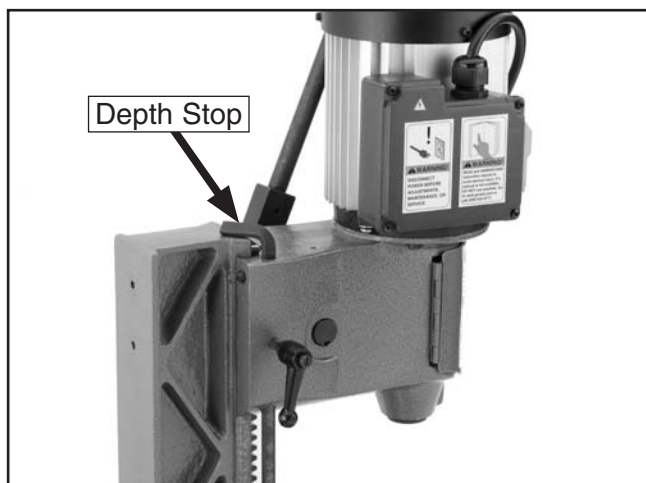

Figure 10. Depth stop contacting headstock.
3. Lift the headstock to the top position using the hand lever. Position the depth stop so it contacts the top of the headstock, as shown in **Figure 10**, and secure the lock knob so the headstock does not move.